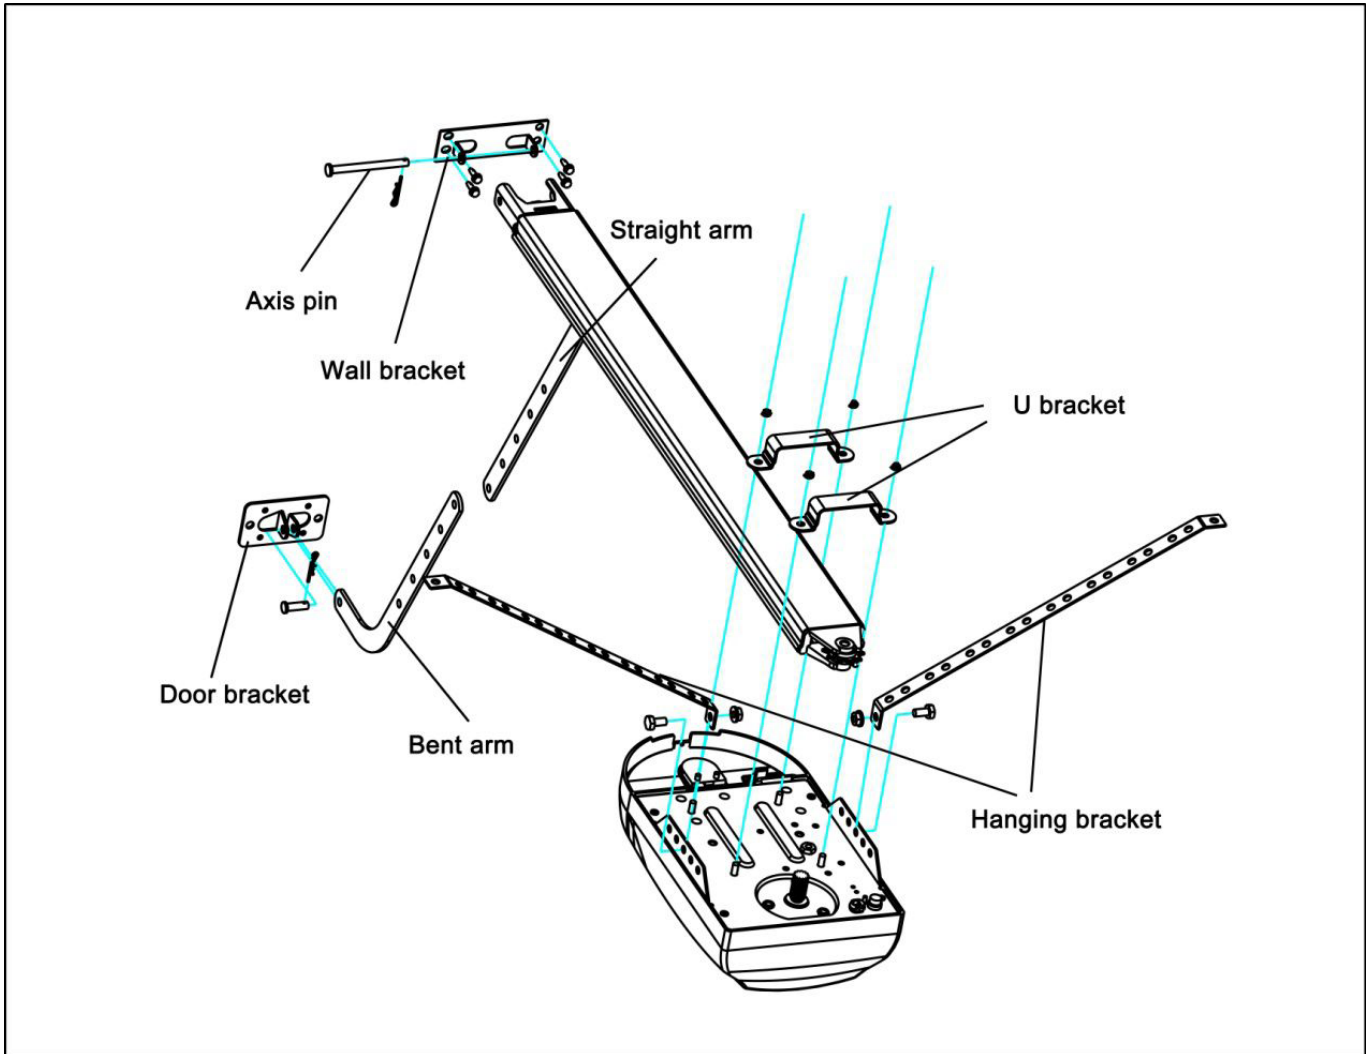

FIG.4
2. Fixing the steel track to the wall bracket with axis pin. (Fig. 4)